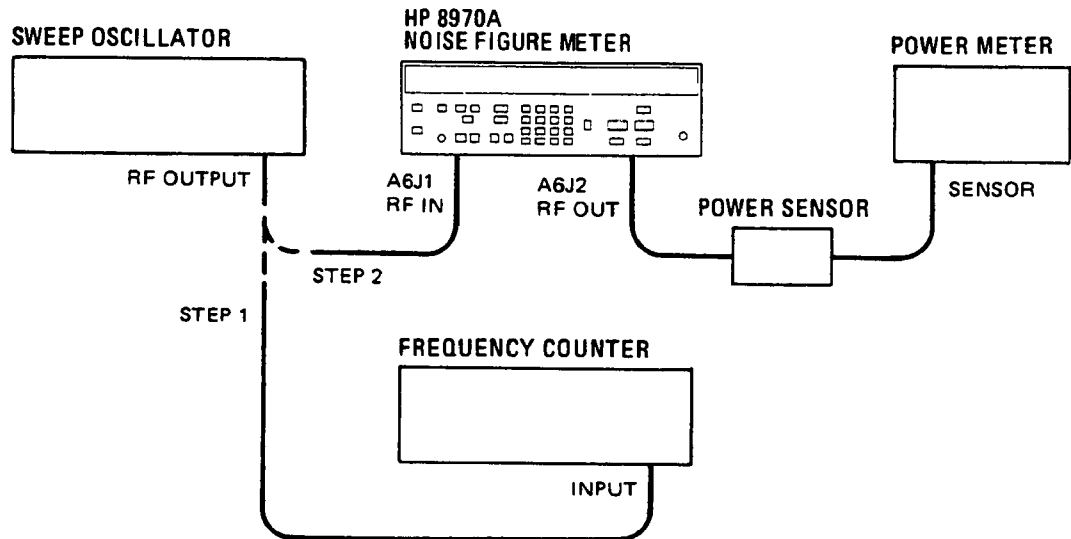

Figure 5-9. 20 dB Input Amplifier Gain Adjustment Setup
2. Connect the sweep oscillator to the Noise Figure Meter A6J1, RF IN. Connect the power sensor to A6J2, RF OUT. (See Figure 5-9.)